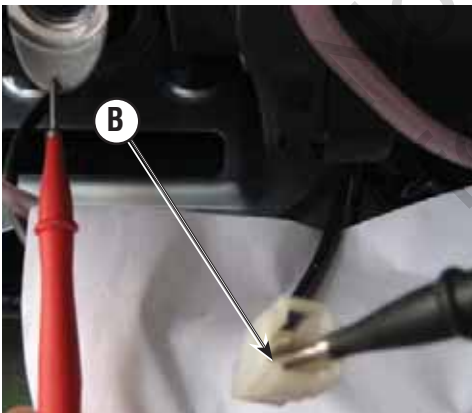

Figure 55
4. Disconnect ignition charge coil connection (**B**, Figure 55) and measure the resistance between the connector and ground.